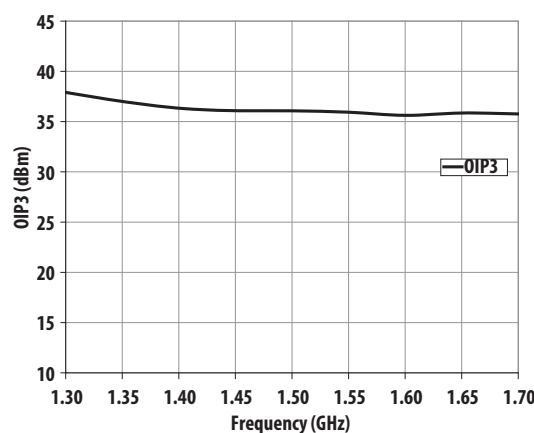
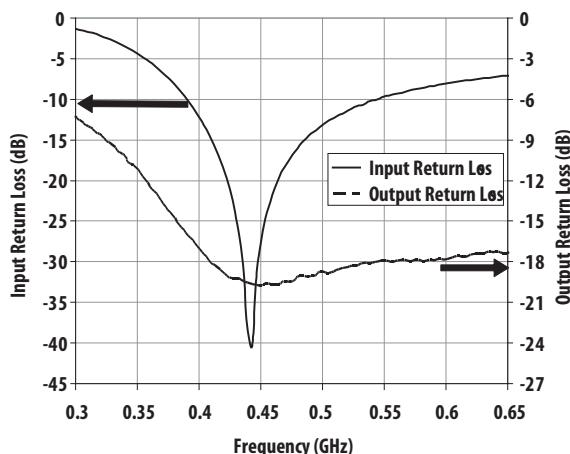

Figure 27. OIP3 vs Frequency
Figure 25. Input and output Return Loss vs Frequency
- For Figure 25, 26 and 27, measurements obtained using demo board described in Figure28 and Table 1, List 3.
Figure 31. Demo Board Schematic with additional shunt inductor, L3, at RFout. This demo board is used for measuring plots of Fig. 25 to Fig. 27. Table1, List 3 shows the components values.
These component values are used while measuring plots of Fig. 25 to Fig. 27.